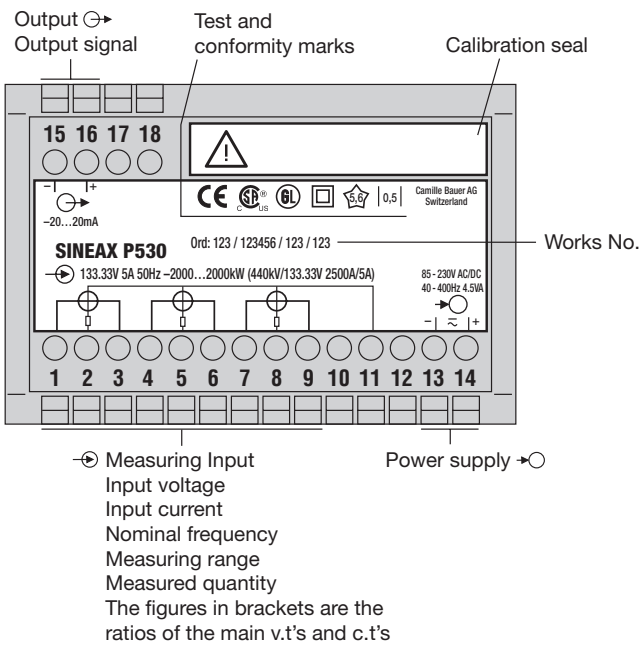

Fig. 5. Declaration to type label.
... the data required to carry out the prescribed measurement must correspond to those marked on the nameplate of the SINEAX P530/Q531 (⊖→ measuring input, ⊖→ measuring output and →○ power supply, see Fig. 5)!
- Remove the calibration seal (small sticker, Fig. 5).